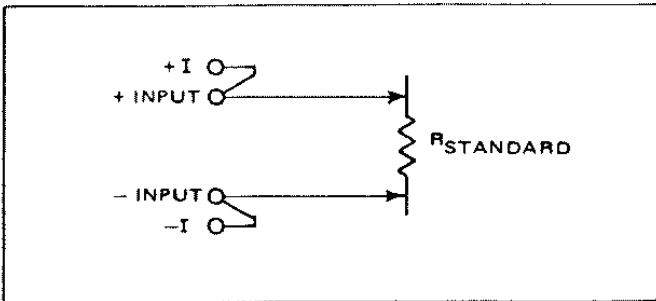

Figure 5.6 - Connections for Ohms Range Adjustment
- a. Connect standard resistors to the input in the order listed in the following table. Select range as listed for each step and adjust the indicated control for a readout equal to the standard resistor value. Connect as shown in figure 5.6.